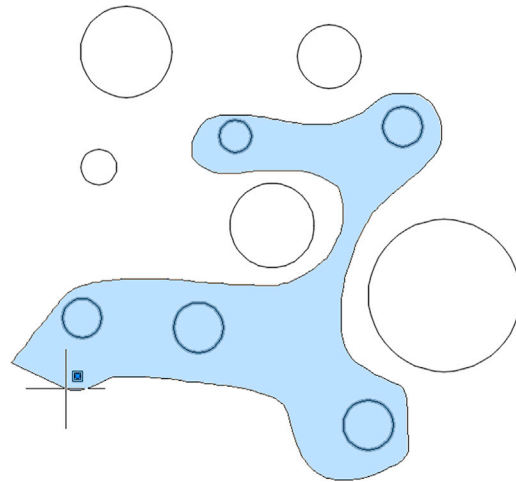

FIGURE 1.32 Window Lasso.
- Step 1.** Draw another set of circles, as seen in Fig. 1.32, or just undo your previous steps.
- Step 3.** Do not type anything in, rather *press and hold down* the left mouse button, and drag it to the *right* (thus making it a *Window Lasso*) around several of the circles, as seen in Fig. 1.32.